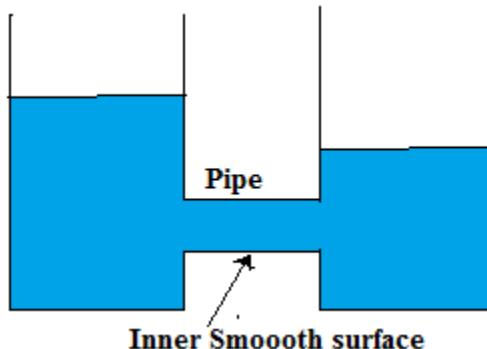

Fig 2.1
- Fig 2.1 shows the two tanks connected by the pipe whose inner surface is smooth then in such a condition the obstruction to water flow is minimum.